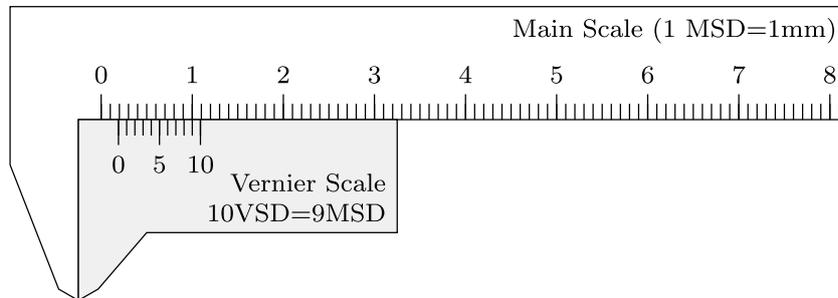

Figure 8: Problem 1.
**Problem 1.** The jaws of the Vernier calipers shown in Figure 8 are in contact with each other. Find the zero error of this Vernier calipers. (Ans: 0.19 cm)